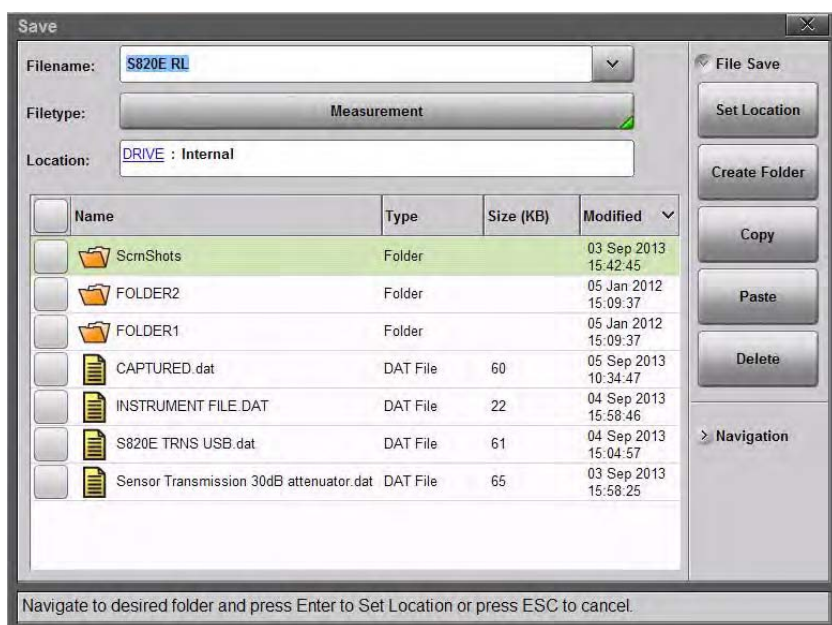

Figure 10-2. Default Save Location
Navigate within a location in Internal Memory or a USB flash drive, then press **Set Location**. The selected save location is displayed. In Figure 10-2 the bread crumb shows that pressing **Set Location** will set the location to the root level of the internal memory (even if a subfolder is highlighted).
1. Press the **Location** button shown in Figure 10-1 and select where to save the file. The default location is the Site Master internal memory (Figure 10-2).
2. Files can also be saved to an external USB flash drive. Insert a USB flash drive into the Site Master USB Type-A connector (Figure 2-2) and double tap on **DRIVE:** (Figure 10-2) to display the top navigation level showing both the internal memory and the external USB drive (Figure 10-3 on page 10-7).